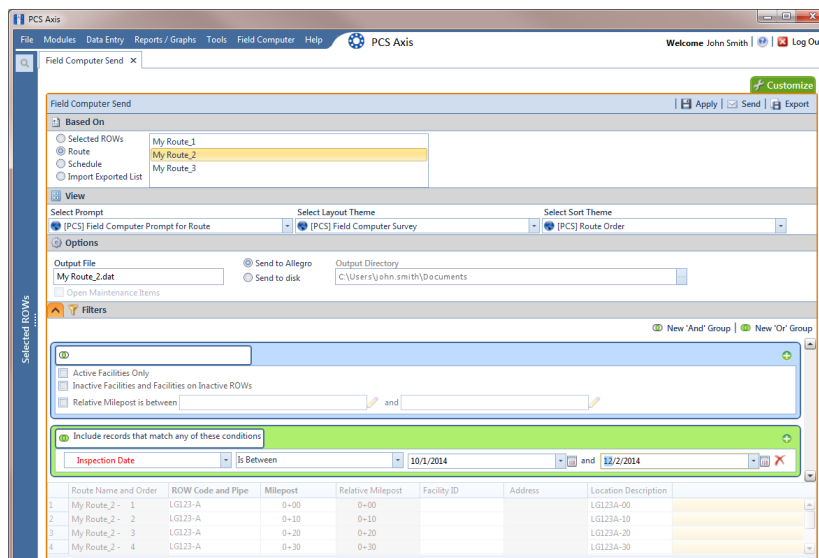

Figure 13-10. New 'Or' Filter Group
- a** Click  **New 'Or' Group** to open a filter properties group box (Figure 13-10).